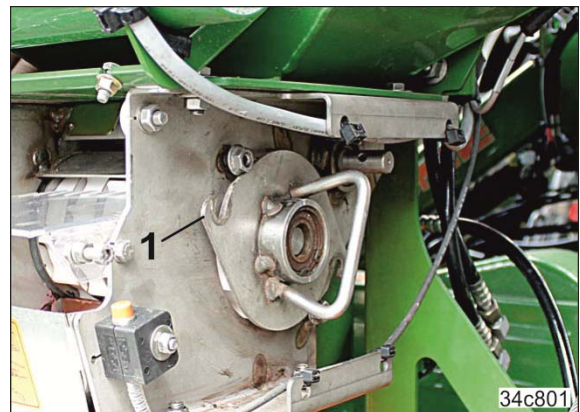

Fig. 181
- 7.3 Turn the bearing cover until the locking devices (Fig. 181/1) are released.